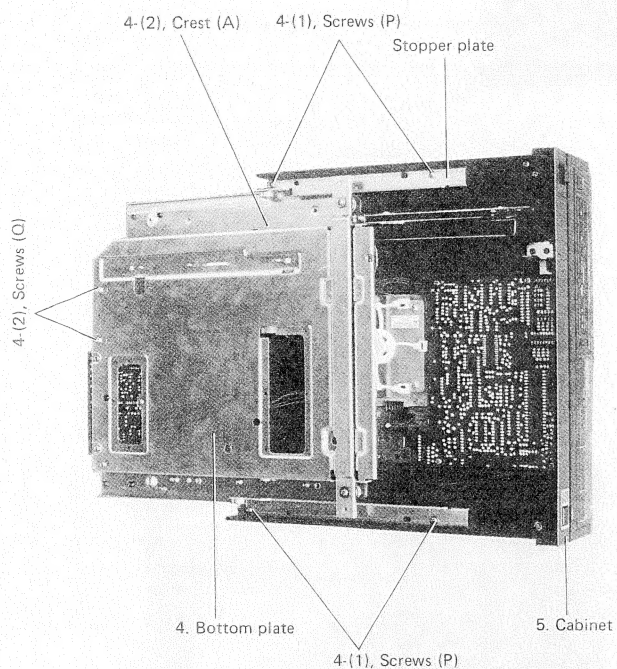

Fig. 10
- (2) Dismount of power switch. (See fig. 10, 11)